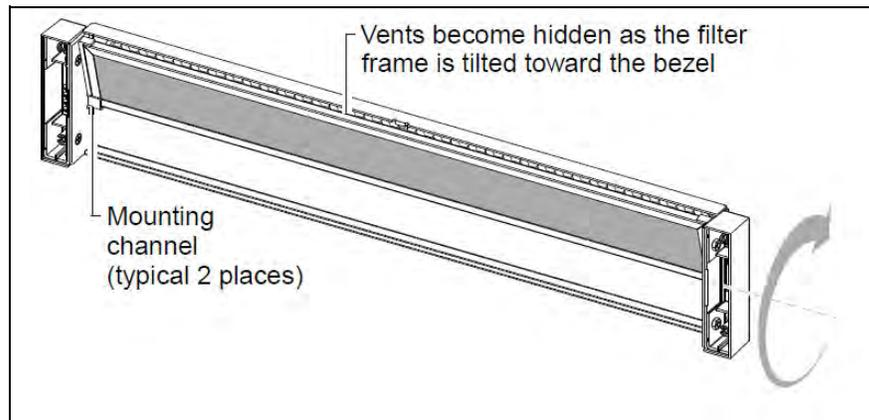

Figure 5.44 - Air Filter Replacement
5. Revolve the air filter gently into its vertical position, while taking care to ensure that the filter frame's exterior foam pads seat snugly against the bezel's interior walls (Figure 5.44).